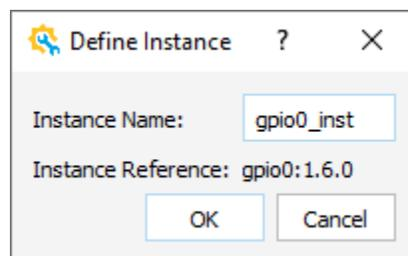

Figure 2.18. Design Instance Dialog Box
7. Click **Finish**. The **Define Instance** dialog box opens (Figure 2.18).